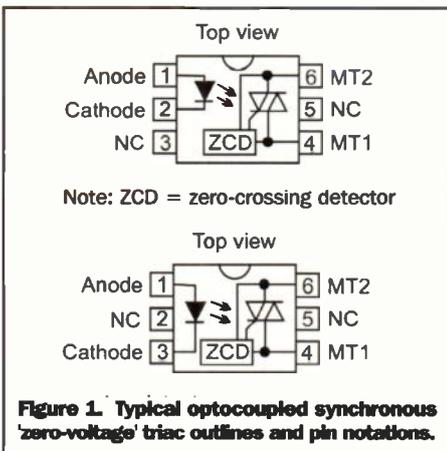

Figure 1. Typical optocoupled synchronous 'zero-voltage' triac outlines and pin notations.
**Figure 1.** A "snapshot" of a propagating light pulse. A light pulse is made of many component waves (waves 1 through 3). Inside an anomalous dispersion region (region-2), the waves propagate in an unusual way. The result is that the waves are "rephased" again at a distant place along its propagation direction to produce the incoming pulse. The effect is greatly exaggerated here for the purpose of illustration.
Several companies (including Isocom, Motorola, Sharp, Siemens, and Toshiba) manufacture optocoupled synchronous zero-voltage triacs. Most of these devices take the form of a six-pin DIL IC, as shown in Figure 1, and house a simulated triac that has its gate drive controlled via an integral photosensitive zero-crossing detector (ZCD), which can be remotely energized via an integral LED. Typically, this type of optocoupled triac has maximum AC ratings of 400V peak and 100mA r.m.s. (with a surge rating of 1.2A for 10 $\mu$ s), will only trigger when the instantaneous AC voltage is below a fixed zero-cross inhibit voltage ( $V_{IH}$ ) value of  $\pm 15V$  nominal ( $\pm 25V$  maximum), has a maximum LED forward current rating of 60mA, has a typical input current trigger sensitivity of 8mA or less, and the entire package has an isolating voltage rating of several kV.